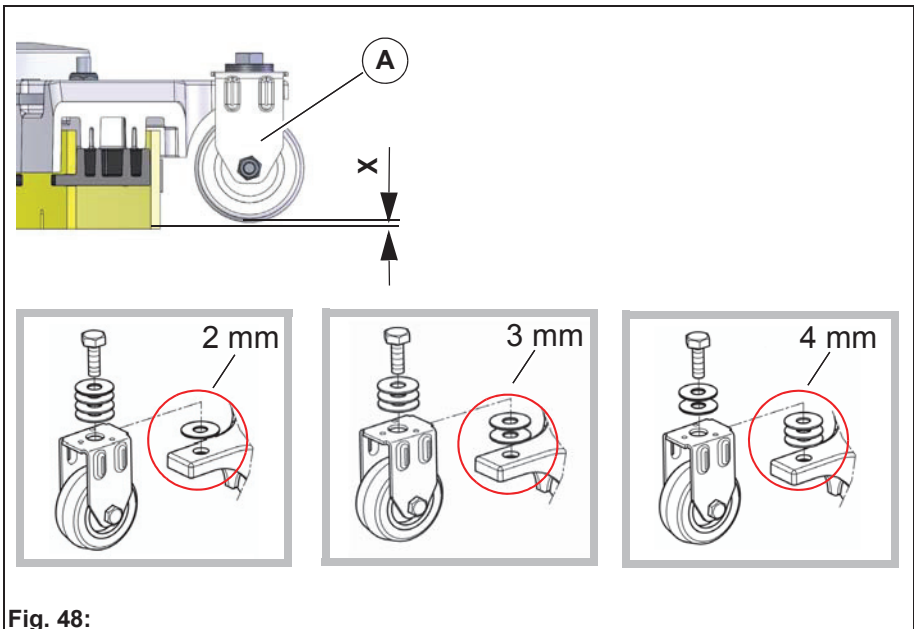

Fig. 48:
The height adjustment (X) of the supporting rollers **Fig. 48-A** has been set to 3 mm in the factory. If striping still occurs despite optimum inclination adjustment, set the distance of the supporting rollers to the lower edge of the sealing strip by adjusting the number of washers under the supporting roller holder.